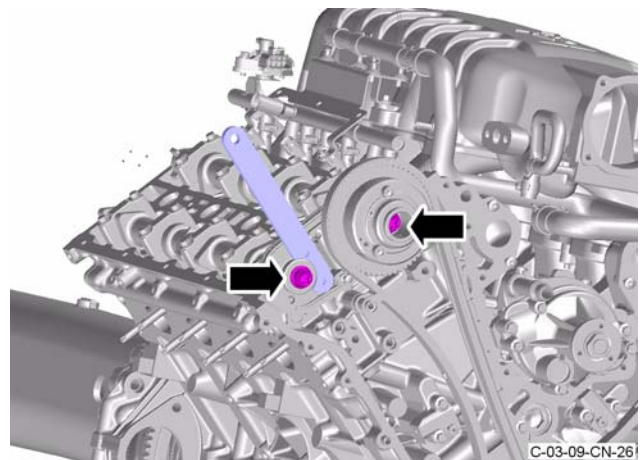

Figure 25
9. Torque the two Torx bolts that attach the camshaft sprockets to the camshafts 90 degrees more (refer to Figure 25).